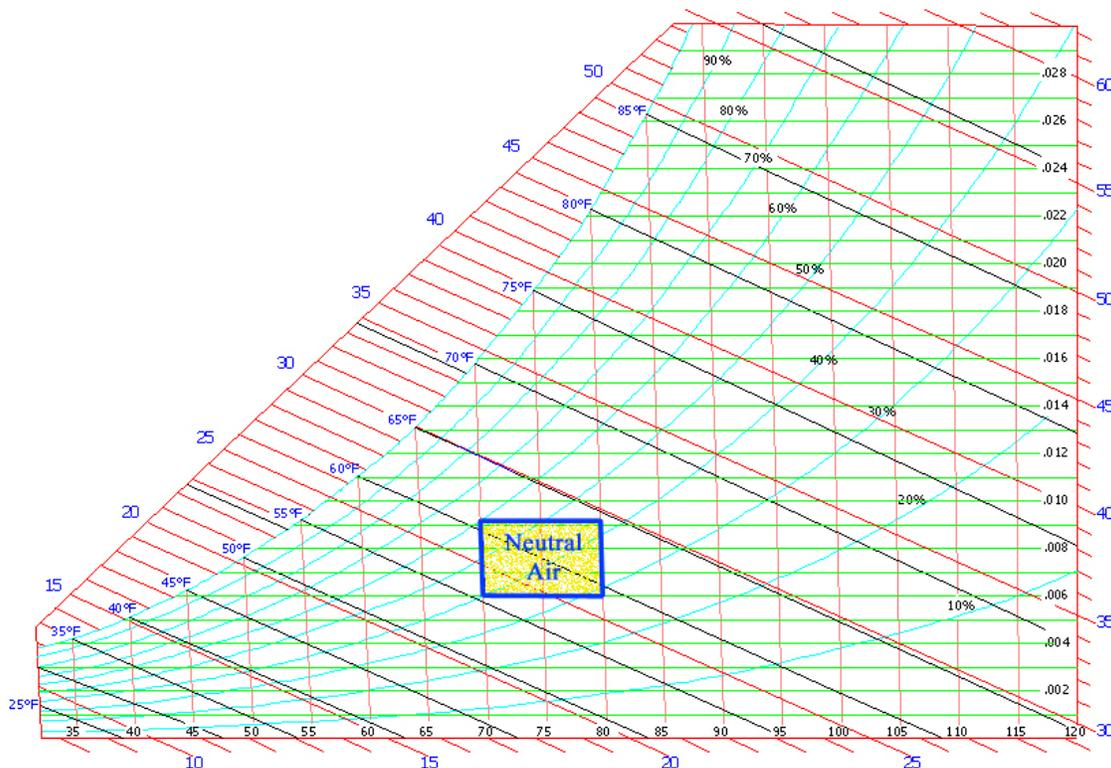

Figure 1
moisture load. An example of neutral supply air for a simple office area to be maintained at 75.0 °F dry bulb (DB) and 50%RH would be 75.0 °FDB and 55.1 °F dewpoint (DP) maximum. Neutral air for a process space to be maintained at 70°FDB and 45%RH would be 70.0 °FDB and 47.7 °FDP maximum. Most applications will fall into the range shown in FIGURE 1. In all cases, the strategy is to design the dedicated outside air unit to maintain zone relative humidity, and the local terminal units are primarily designed to maintain temperature.